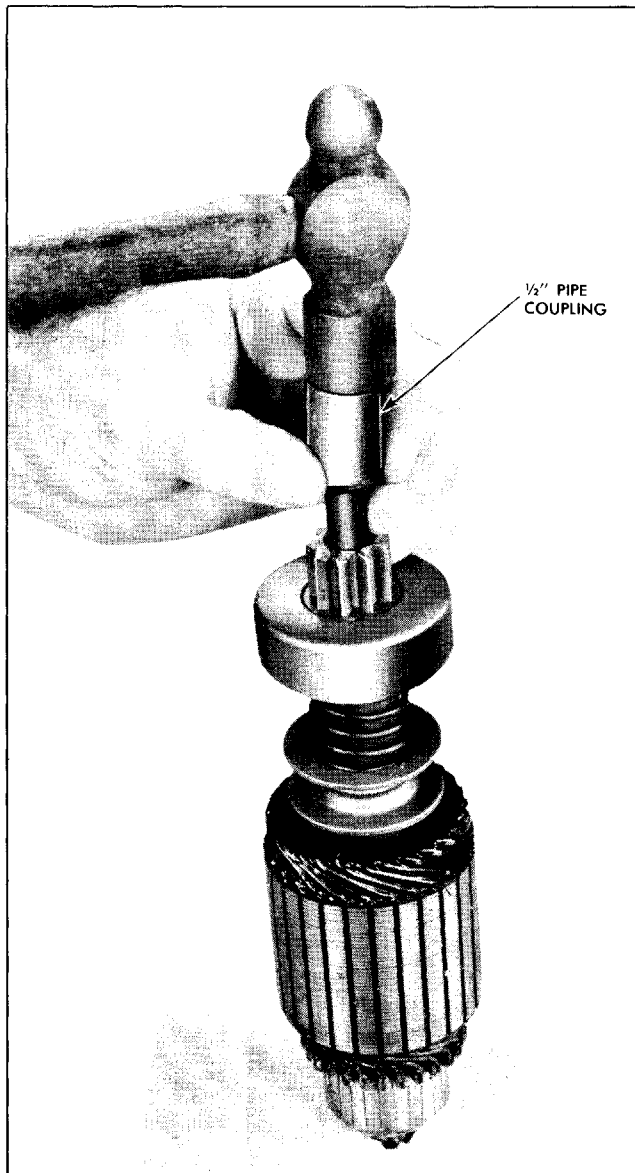

Fig. 12-30 Driving Retainer Off Snap Ring
- b. Slide a standard half inch pipe coupling or other metal cylinder of suitable size (an old pinion of suitable size can be used if available) onto shaft so end of coupling or cylinder butts against edge of retainer (Fig. 12-30). Tap end of coupling with hammer, driving retainer towards armature and off snap ring.